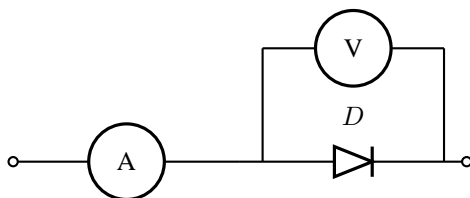

Figure 2: Electric Circuit with Diode.
1. Using the diode, construct the circuit shown in Fig. 2. Obtain five different voltage and current readings for the diode. The voltage readings should range between 0 and 0.8 volts.¹ The voltmeter should be set to the 2 volt scale, and the ammeter should be set to the 200 milliamp scale (or the 2 milliamp scale, as appropriate). Record your data in Table 1.